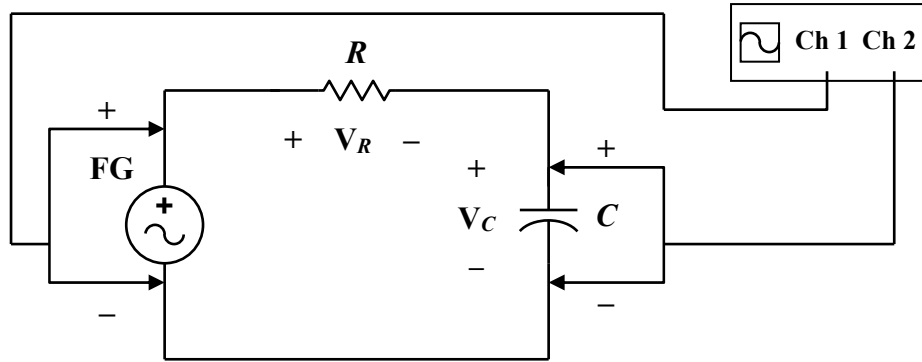

Figure 10.7
19. Using two channels on the oscilloscope, measure the phase ϕ_C of the output (capacitor) voltage with respect to the input (FG) voltage (**Figure 10.7**). Record in **Table 10-5**. *Does the capacitor voltage lead or lag the input voltage?*
Note: In **Figure 10.7**, the FG and capacitor share the same ground.